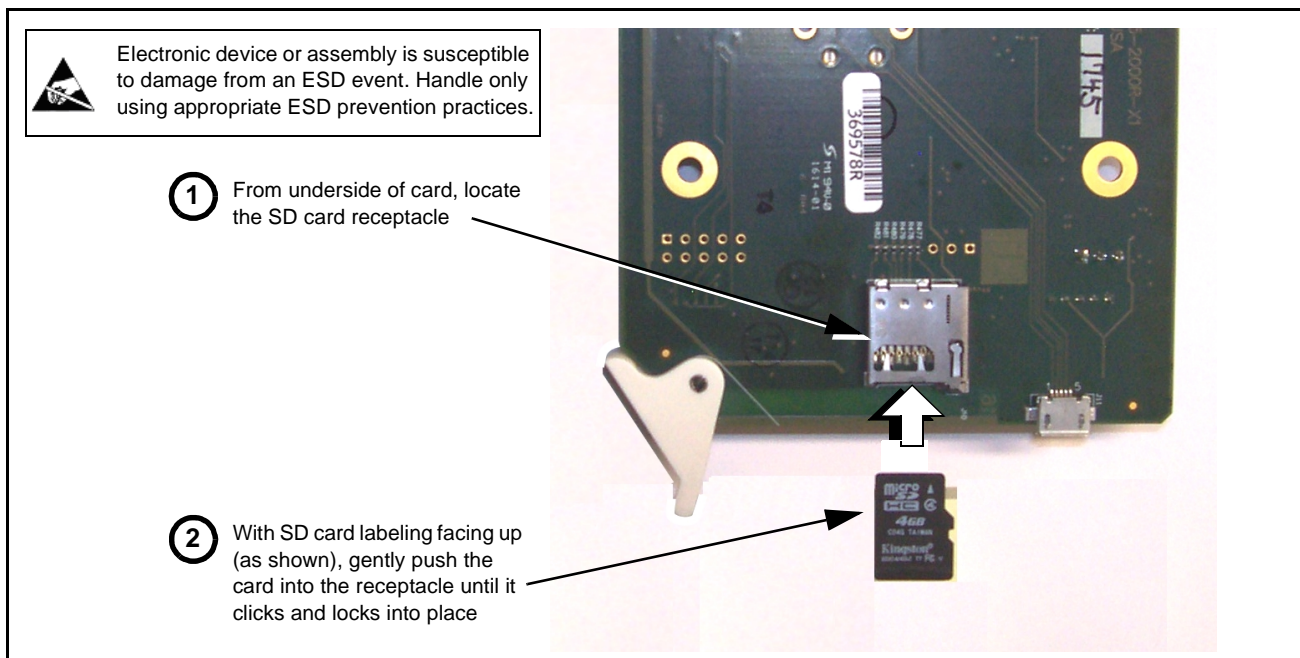

Figure 3-9 SD Card Installation
1. (See Figure 3-9.) Make certain the card has the proper SD card installed in the under-card slot. If SD card is **not** installed, contact Product Support to obtain an SD card.